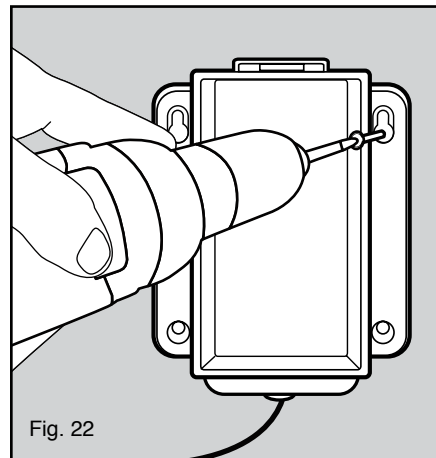

Fig. 22
23. Install the assembled battery compartment to the back or side wall under the countertop using screws (included) or double sided tape (not included). Position it no further than 32" from the motor module (see figure 22).